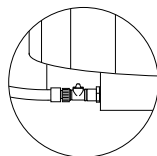

Figure 13.5c
3. Attach one end of your garden hose to the drain valve, Figure 13.5c. Place the other end in an area safe for water runoff.